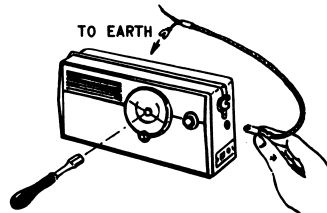

FIG. 3
**DIAL SCALE AND HANDSPAN WHEEL.** The 727 is supplied with 6 dial scales, one for each state. To change the scale already fitted, it is preferable to use a tube spanner to remove the chrome hexagonal stud. Remove the "wheel" by exerting thumb pressure towards the small vernier knob and, at the same time, thrusting away from the dial scale (see FIGS. 3 & 4). The scale is easily removed and replaced.